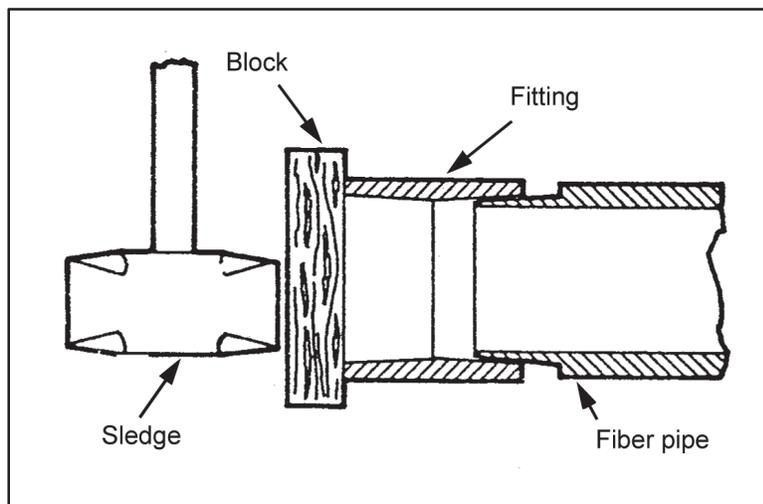

Figure 6-50. Joining fiber pipe
6-99. Join fiber pipe and fittings with a friction joint (figure 6-50), as follows:
Step 4. Tap the block lightly with a sledge (figure 6-50) to drive the pipe and fitting together until the fitting butts against the taper shoulder. The driving produces enough heat to fuse a watertight joint of the pipe and fitting.